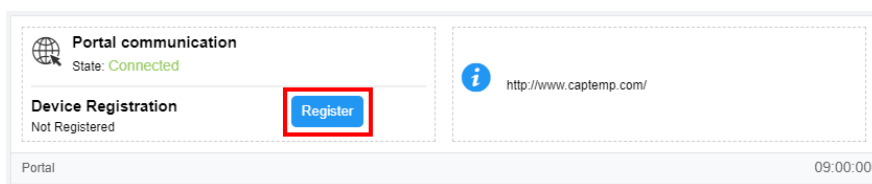

Figure 43 - Button for Nidus registration
- 3.2 **“Not Registered”** means that Nidus can communicate with portal but is not registered yet. At this point, becomes available a button to do the Nidus registration on SensLive, as shown in Figure 43.